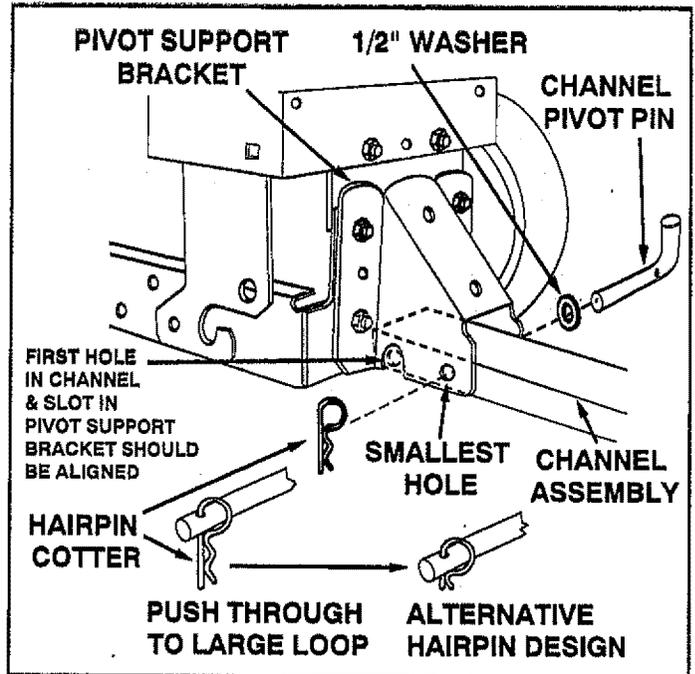
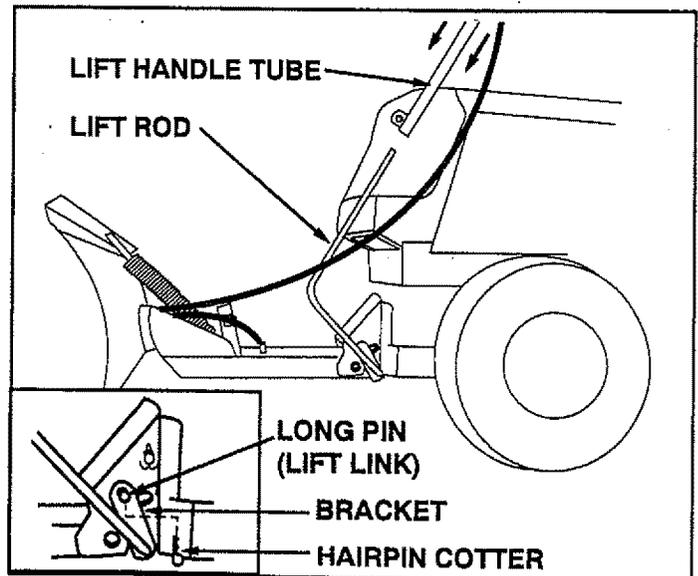
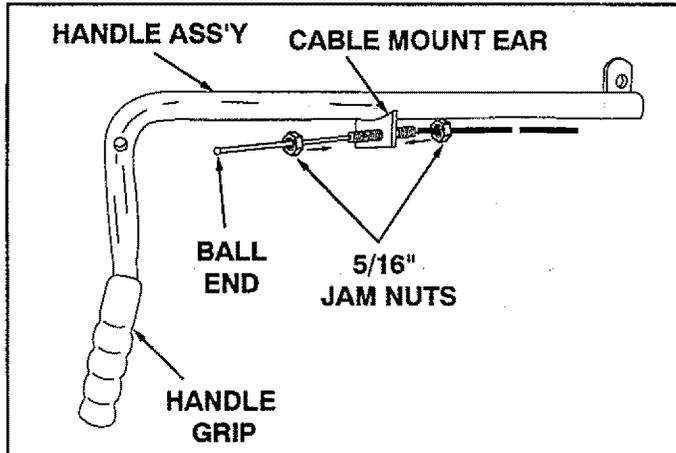

FIGURE 25 (Right Hand Side View)
FIGURE 26 (Left Hand Side View)
FIGURE 27 (Right Hand Side View)
- Assemble the 1/2" washer onto the channel pivot pin. See figure 25.
- Attach the channel assembly to the tractor by placing the end of the channel assembly up inside the pivot support bracket on the tractor. Align the second hole from the end in the channel assembly with the front hole in the pivot support bracket and insert the channel pivot pin through from the left side. Secure with a hairpin cotter pushed all the way through to the loop end. See figure 25.
- To assemble lift handle to blade, assure that holes in end of channel assembly are aligned with clearance slots in sides of pivot support bracket as shown in figure 25. From the left side insert the bracket end of the lift rod through the holes in the channel assembly. Next, align the hole in the lift rod bracket with the lift link (pre-assembled to the pivot support bracket). Secure with a hairpin cotter inserted up through the cross hole in the lift link pin all the way to the loop end of the hair pin cotter. See figure 26.
- Using the furnished grease packet, apply a light coating of grease to the straight upper portion of the lift rod. Slide lift handle tube onto the lift rod. See figure 26.
- To attach loose end of cable to handle assembly, pass cable around outside and underneath handle assembly as shown in figure 26. Mount one 5/16" jam nut approximately 3/4" onto threaded end of control cable. Insert threaded end of cable up through cable mount ear on handle assembly and secure with a second 5/16" jam nut. **Tighten.** See figure 27.